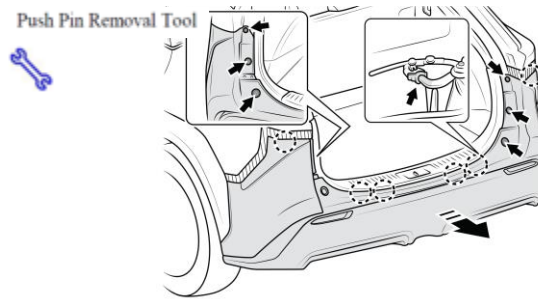

Fig 5-1
- (b) Remove 2 upper push pins (1 on LH, 1 on RH side). (Fig. 5-1).
- (c) Remove 4 screws (2 on LH, 2 on RH side) in middle and lower locations. (Fig. 5-1).